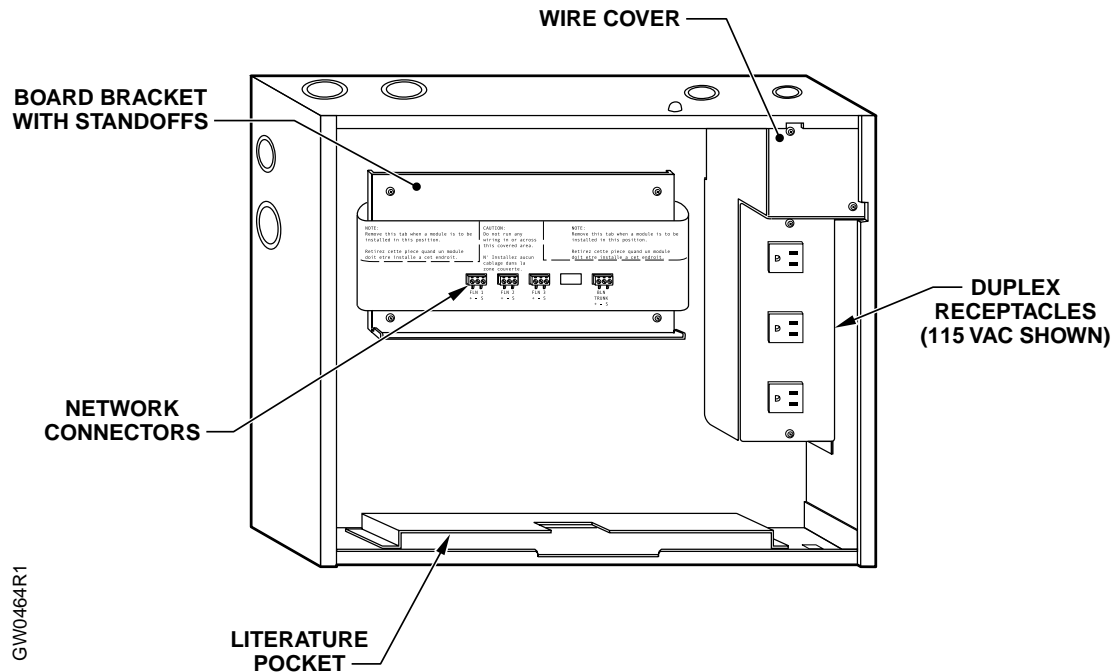

Figure 3. Easylink Enclosure; Inside View.
- Rotate the top two plastic stand-offs on the board bracket so that the clip of the standoff is positioned at the top. (Figure 3).